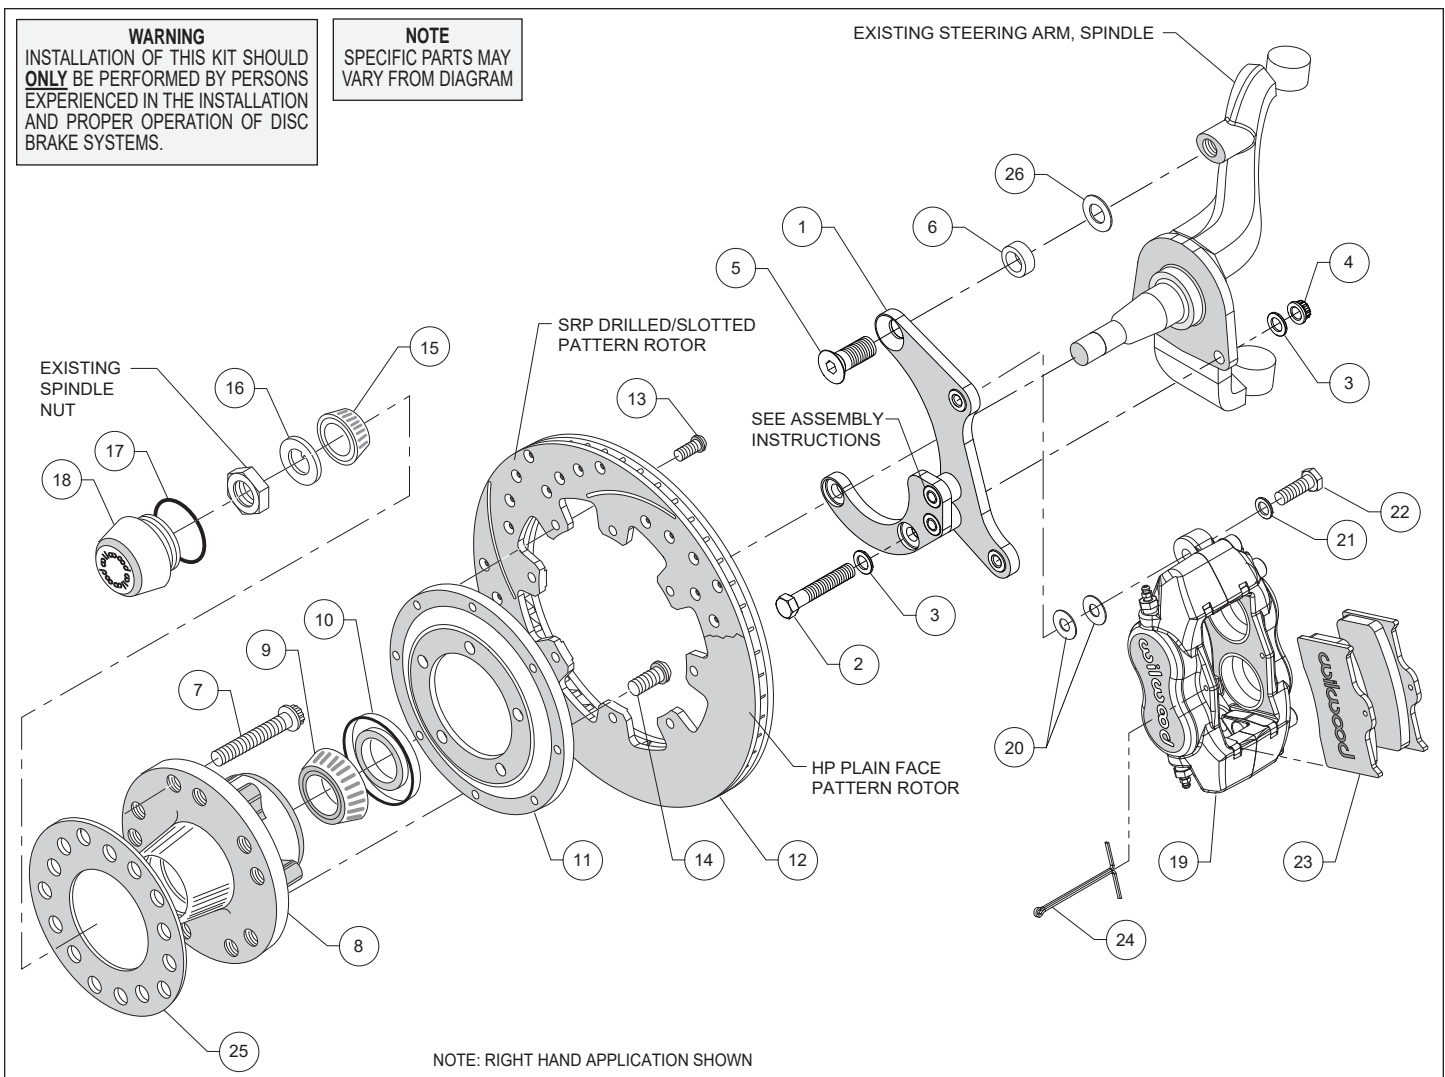
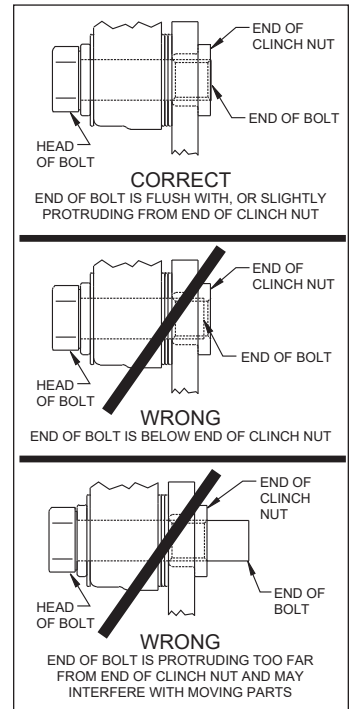

Figure 1. Typical Installation Configuration
Figure 3. Clinch Nut Engagement Diagram
Assembly Instructions (numbers in parenthesis refer to the parts list and Figure 1 on the preceding pages): **CAUTION:** All mounting bolts must fully engage clinch nuts. Be sure to check that all bolts are either flush or protruding through flanged side of clinch nut after shimming, Figure 3.
- The caliper mounting bracket (1) has been assembled at the factory for alignment purposes. Loosen the two bolts that secure the brackets together so that the bolts are hand tight only, this will enable the bracket assembly to be adjusted to accommodate various spindle tolerances during assembly. Align bracket with the two lower holes on the spindle face and attach using bolts (2), washers (3), and secure using lock nuts (4), as shown in Figure 1 and Photo 1. Install bolt (5) through top of bracket while placing spacer (6) between bracket and spindle, Figure 1. Ensure that the flanged heads of the clinch nuts in the bracket are facing outboard, Photo 1. Temporarily tighten the mounting bolts.
- Check that the bracket is aligned parallel to the rotor by assembling and installing the hub/rotor per the step below. If not, add shims (26) between the spacer (6) and the spindle to align the bracket, Figure 1.
- Pack the large inner bearing cone (9) with high temperature disc brake bearing grease (available from your local auto parts store) and install into the backside of the hub (8), Photo 3.
- Install the grease seal (10) by pressing into the backside of the hub (8), flush with the end of the hub, Photo 3.
- Orient the rotor (12) and the rotor adapter (11) as shown in Figure 1 and Photo 4. Attach the rotor to the adapter using bolts (13). Using an alternating sequence, apply red *Loctite*® 271 to the threads, and torque to 25 ft-lb.
- Mount the adapter/rotor assembly (11/12) to the hub (8) using bolts (14), as shown in Figure 1 and Photo 5. Using an alternating sequence, apply red *Loctite*® 271 to the threads, and torque to 45 ft-lb.
- Pack the small outer bearing cone (15) with high temperature disc brake bearing grease and install into hub (8). Slide the hub/rotor assembly onto the spindle. Secure using spindle washer (16) and OEM spindle nut, Photo 6. Adjust bearings by tightening the wheel bearing nut to 60 **in-lbs.** while turning the hub/rotor assembly (11/12). Install saved OEM nut lock (if any) on the wheel bearing nut with one pair of slots in-line with (covering) the cotter pin hole. Back off the adjusting nut lock assembly (or castle nut) one slot and install a new cotter pin (not supplied). **The resulting adjustment should be zero (no pre-load to 0.003 inch end play).**
- Screw dust cap (18) into hub (8), Photo 7. Friction created by the o-ring (17) on the dust cap keeps it from unscrewing. **NOTE:** The O.D. of the existing OEM spindle washer may be larger than the I.D. of the dust cap not allowing it to seat against the hub face. Therefore, use the spindle washer (16) supplied with the kit instead of the OEM washer.
- NOTE:** Please reference the caution statement at the beginning of the assembly instructions. Mount the caliper (19) onto the caliper mounting bracket (1) using bolts (22) and washers (21), as shown in Figure 1. Initially place two .035" thick shims (20) on each bolt between the caliper and the bracket, Photo 8. Temporarily tighten the mounting bolts and view the rotor (12) through the top opening of the caliper. The rotor should be centered in the caliper, Photo 9. If not, adjust by adding or subtracting shims between the bracket and the caliper. Always use the same amount of shims on each of the two mounting bolts. **NOTE:** The end of each bolt must be flush with or slightly protruding from the head of the clinch nut, as shown in Figure 3. If necessary place spare shims between washer (21) and caliper mounting ear to achieve the proper clinch nut engagement. Once the caliper alignment and clinch nut engagement are correct, remove the bolts one at a time, apply red *Loctite*® 271 to bolt threads, and torque to 40 ft-lb.